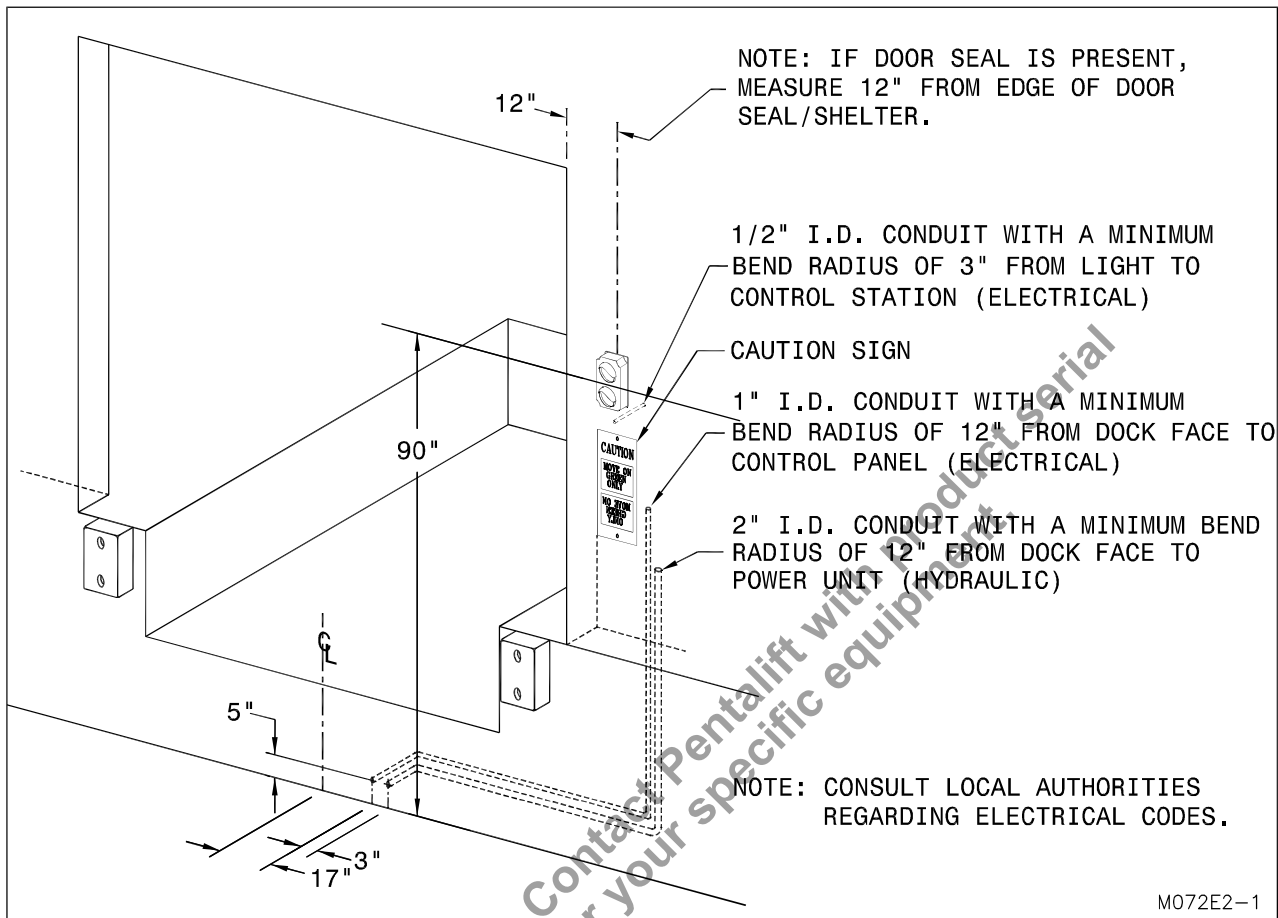

Figure 8: Conduit / Outside Light / Outside Sign Locations
2. \_\_\_ Ensure that the required conduits are in place (see "Figure 8: Conduit / Outside Light / Outside Sign Locations" on page 11).
13. \_\_\_ Mount the outside light approximately 90" high from the finished driveway level (See "Figure 8: Conduit / Outside Light / Outside Sign Locations" on page 11).
1. \_\_\_ Ensure that the required conduits are in place (See "Figure 8: Conduit / Outside Light / Outside Sign Locations" on page 11).